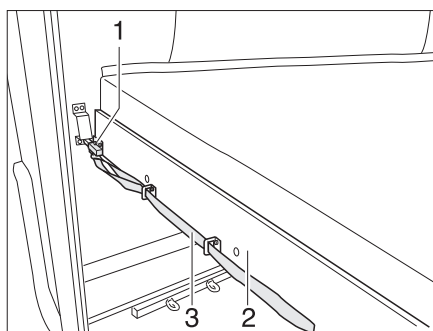

Fig. 169 Bunk bed (rear)
- Pull on the loop (Fig. 169,3) and release the latch (Fig. 169,1).
- Pull the slatted frame (Fig. 169,2) together with the mattress forward until it latches in place.